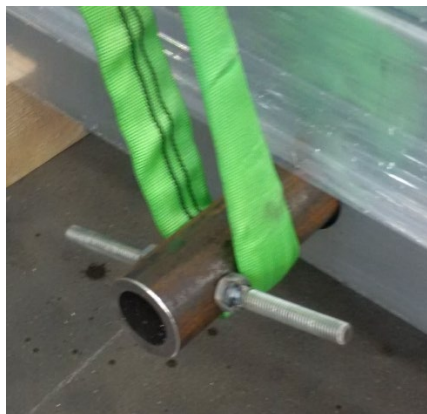

Figure 22: Securing against slipping off of the load carrying equipment
- The load carrying equipment must be secured to prevent slipping off, e.g. see **Figure 22**.